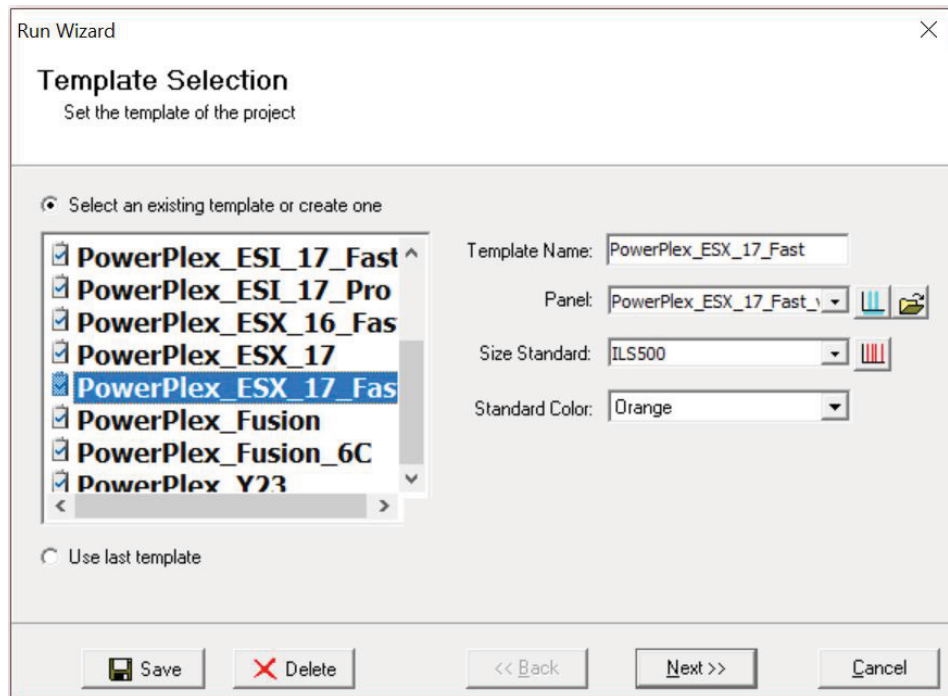

Figure 28. The 'Template Selection' window.
8. Click on **Run** in the Magic Wizard or click the **Run Project** icon (green arrow) in the toolbar. The 'Template Selection' screen will appear (Figure 28). Select the PowerPlex_ESX_17_Fast template and the settings shown in Figure 28. Verify the panel that you created in Step 6 is selected in the Panel drop-down field. The Size Standard must be ILS500 and the Standard Color must be Orange. Select **Next**.